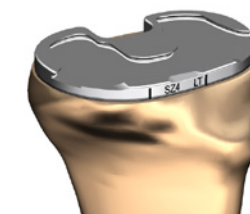

Figure 64
- 5 After impaction, ensure that the tibia implant is completely contacting the surface of the resected tibia and no gaps are present between the implant and bone (Figure 64). Fixation, support and stability may be compromised if gaps are present between the implant and bone.